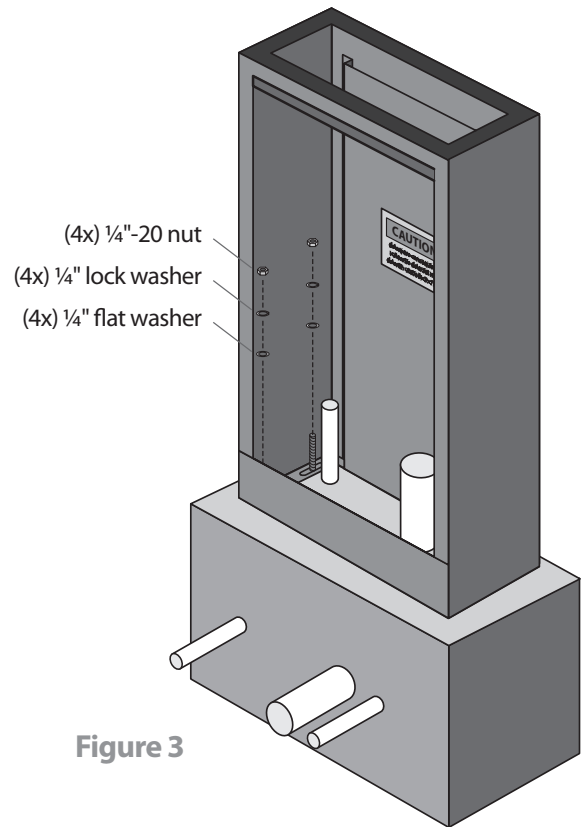

Figure 3
5. Using the included washers and nuts, mount the pedestal over the four anchor bolts and tighten all four nuts securely (Figure 3). Ensure that the pedestal is properly vertically aligned; shim with redwood or treated wood spacers if necessary.